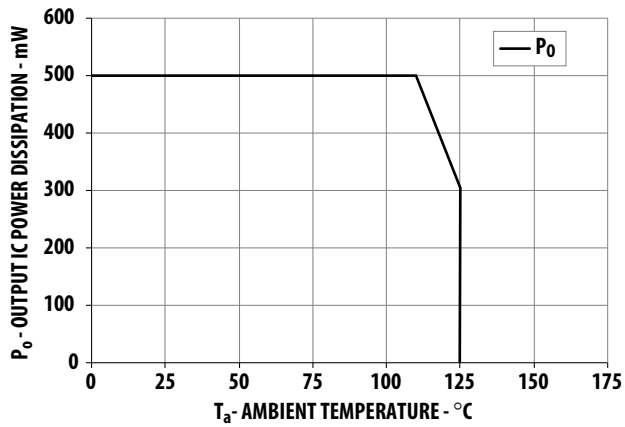

Figure 2. Output IC Power Dissipation Derating Chart
- Derate linearly above 110 °C free-air temperature at a rate of 13 mW/°C. Refer to Figure 2 from Output IC Power Dissipation Derating Chart.